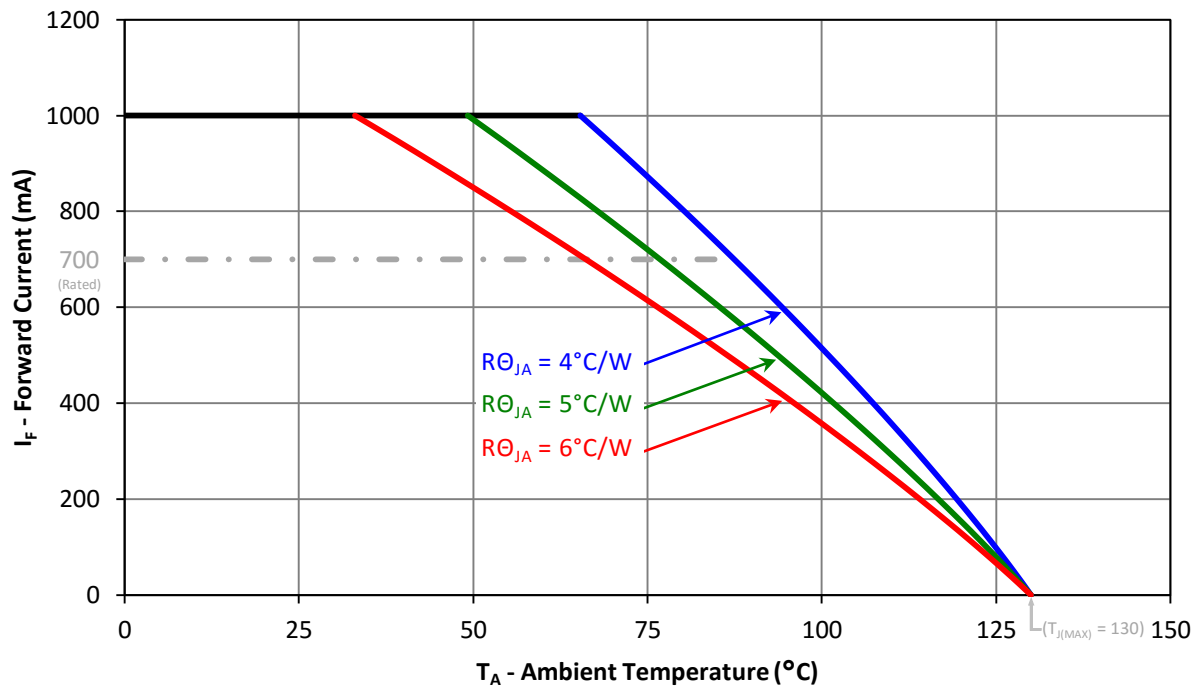

Figure 11: Maximum forward current vs. ambient temperature based on $T_{J(MAX)} = 130^\circ\text{C}$
1. Maximum DC forward current is determined by the overall thermal resistance and ambient temperature. Follow the curves in Figure 11 for current derating.
Notes for Figure 11: